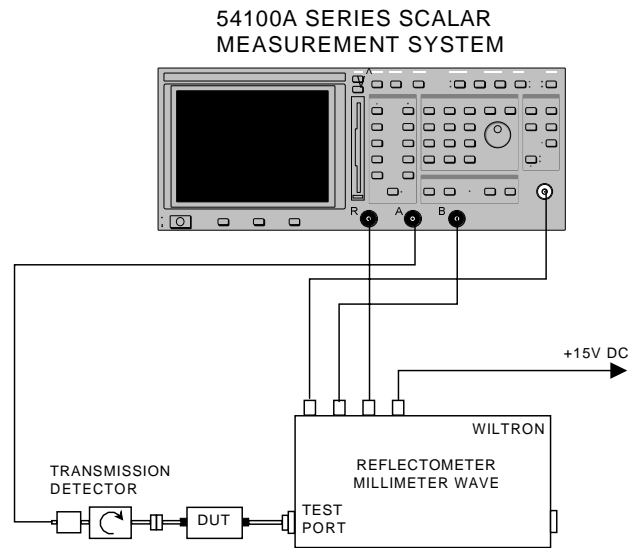

Figure 3. ANRITSU 54000-6WRXX mm Reflectometer
- Step 1.** Connect DC power to the Reflectometer POWER INPUT connector as described in paragraph 3 above. (See Figure 3.)